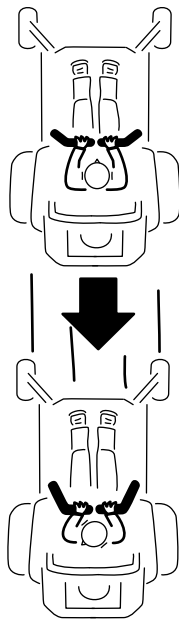

Figure 26
- To go backward, slowly pull the motion-control levers rearward (Figure 26).